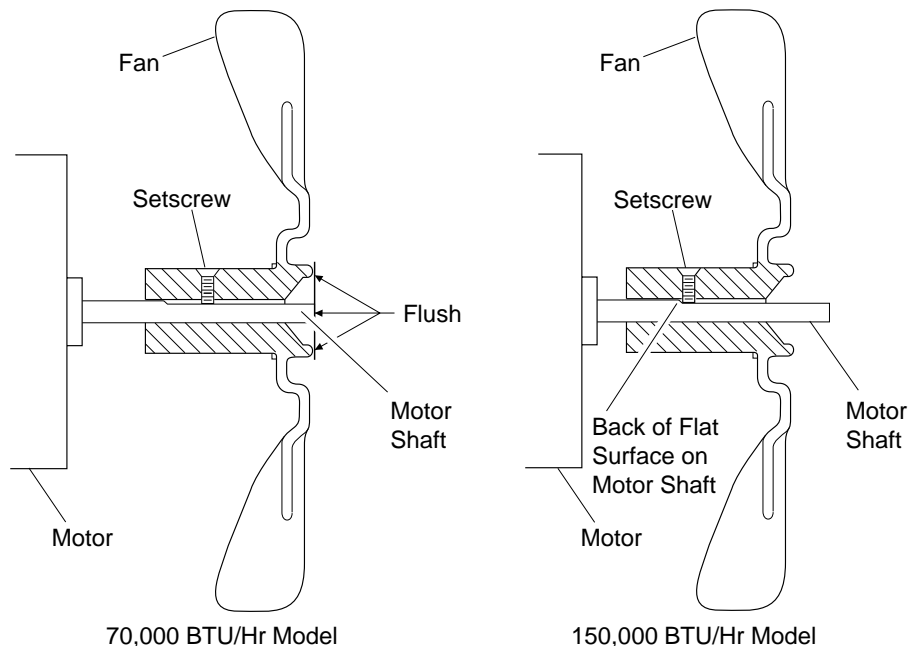

Figure 6 - Fan Cross Section
6. (70,000 BTU/Hr Model) Replace fan on motor shaft. Place fan hub flush with end of motor shaft (see Figure 6).
- (150,000 BTU/Hr Model) Replace fan on motor shaft. Make sure set screw is touching back of flat surface on motor shaft (see Figure 6).